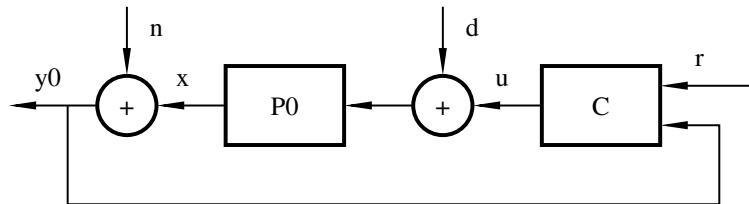
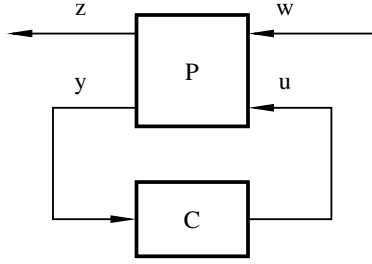

Figure 3 The control loop in Problem 5.
Figure 4 Desired form of the control loop in Problem 5.
5. We want to design a controller C for the SISO control loop in Figure 3 using Youla parametrization and convex optimization. To do this, the control loop must first be transformed into the standard form of Figure 4, where z are the signals that we want to control, y are the signals available to the controller, w are the exogenous inputs and u is the control signal.
- a. What is the controller input y of Figure 4 according to Figure 3? What is the size of the transfer function matrix P ? (1 p)
- b. Find the transfer function matrix P so that Figure 3 and Figure 4 describe the same control problem. (1 p)